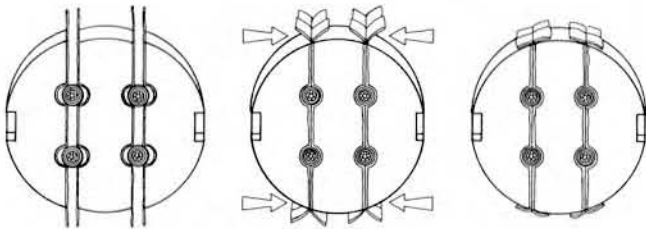

Figure 24
11.01 Using a ratchet wrench, draw the end plate sections together until the excess LOCK-TAPE™ Sealant on the ends of the end plate sections separate and lay back as illustrated in Figure 24. When the LOCK-TAPE™ Sealant stops moving the bolts are sufficiently tight. **DO NOT OVER TIGHTEN.**